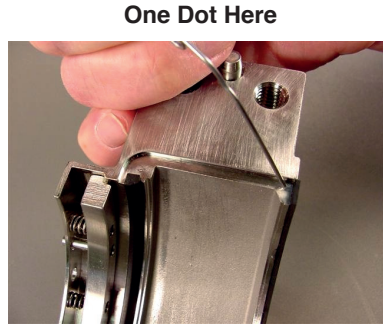

Figure 25
- 8.2 Put one dot of adhesive in the groove as shown in Figure 25.